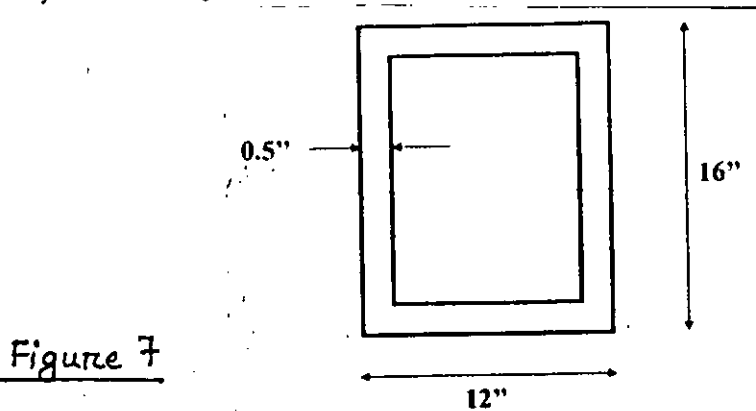

Figure 7
- (b) Calculate and draw the design P-M interaction diagram for the above FEC column, including the global slenderness effect. Use AISC-LRFD method. (8)
8. (a) For the Concrete Filled Tabular (CFT) column section shown in Figure 7, check the design adequacy for a factored axial compressive load of 440 kips and a factored bending moment of 770 kips-ft about the weak axis using both the AISC interaction equation and simplified plastic stress distribution method. Consider the effective length of the column to be 15 ft. Use the AISC-LRFD method. (15 1/3)